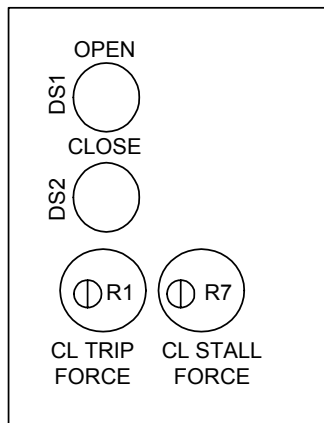

Figure 19-15
16. With the doors fully open press the door close button and adjust the CL Trip Force pot counter-clockwise until the CL Trip Force LED lights. [See Figure 19-15.]